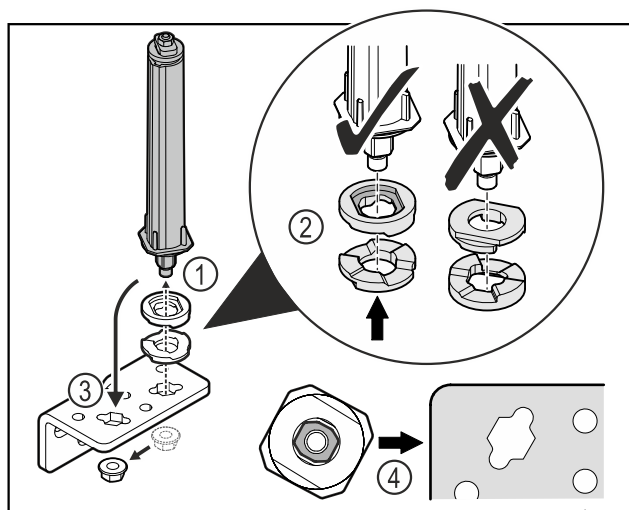

Fig. 28
- Loosen the nut and remove the door closing system Fig. 28 (1).
- Observe the correct alignment of the height adjustment washers Fig. 28 (2).
- Put the door closing system in the hinge and fix in place with the nut Fig. 28 (3).
- Observe the correct alignment of the door closing system when doing so Fig. 28 (4).